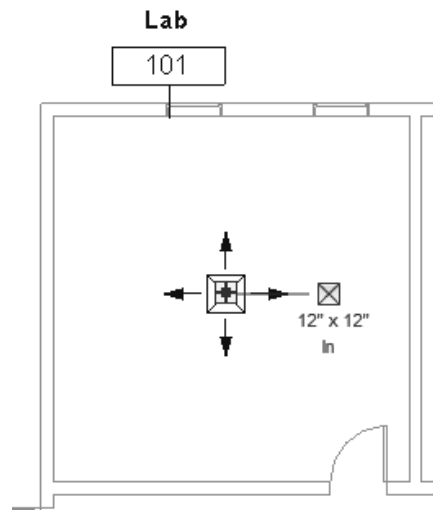

Figure 2–20
- Click near the center of room **Lab 101**, as shown in Figure 2–20.